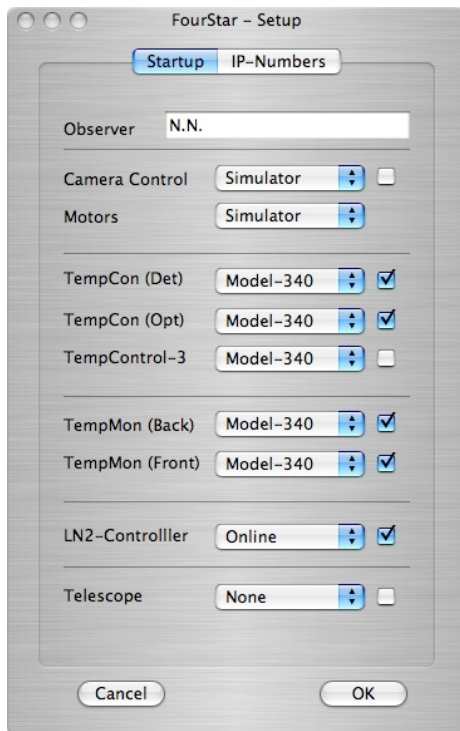

Fig. 9. Setup screen for cooldown.
7.2 Start up the FourStar software selecting just the Detector- and Optics-Temperature controllers, Front- and Back-Temperature monitors, and LN2-Controller as shown in Fig 9.